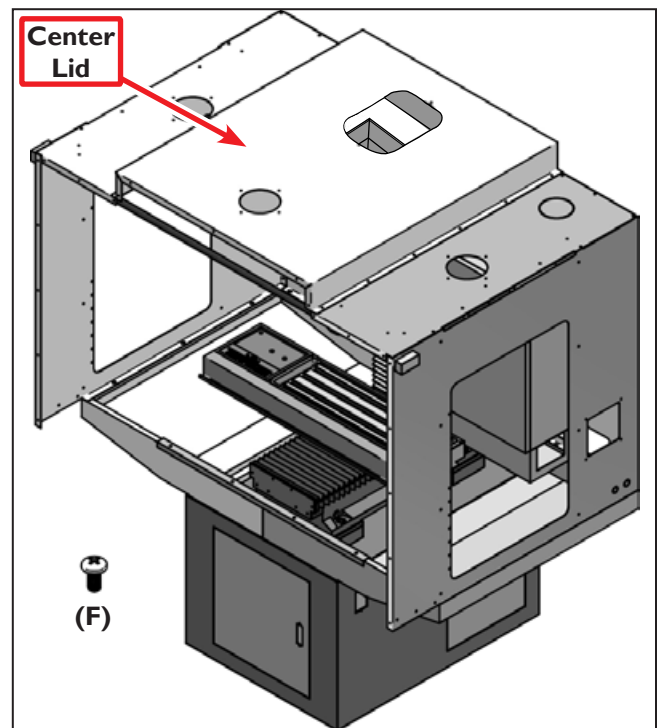

Figure 10
24. Place the Center Lid (E.22) on top of the left/right lids, and door support rod (see **Figure 10**). Loosely fasten with (F) screws along each side of the lid.